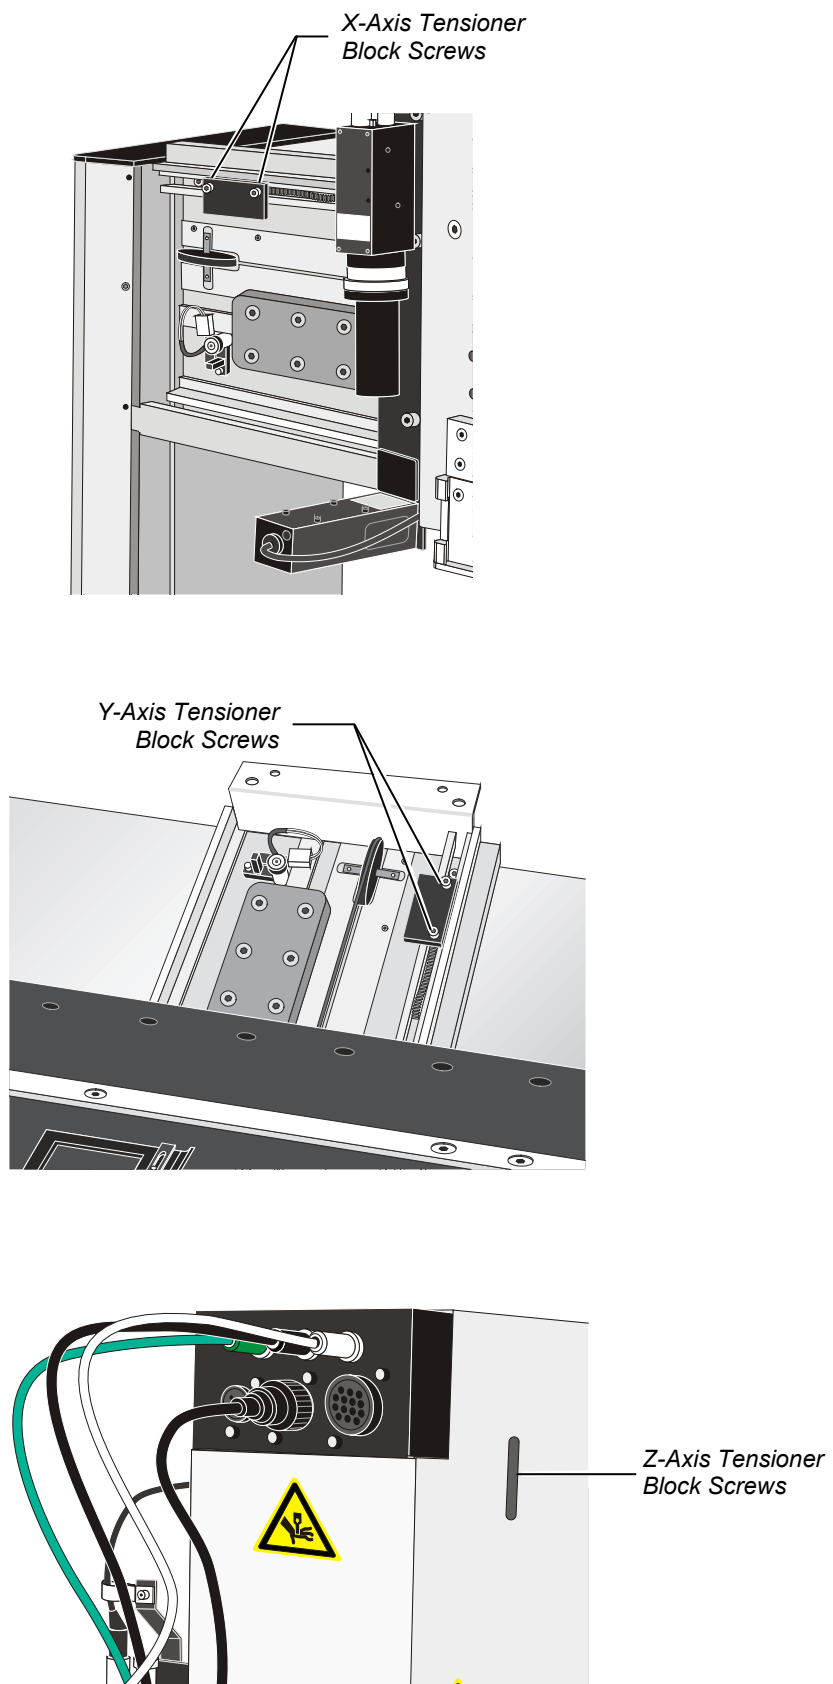

Figure 4-7 Tensioning the Cables
- a. Loosen the two X-axis tensioner block screws (Figure 4-7).
- b. Loosen the two Y-axis tensioner block screws (Figure 4-7).
- b. Loosen the two Z-axis tensioner block screws (Figure 4-7).